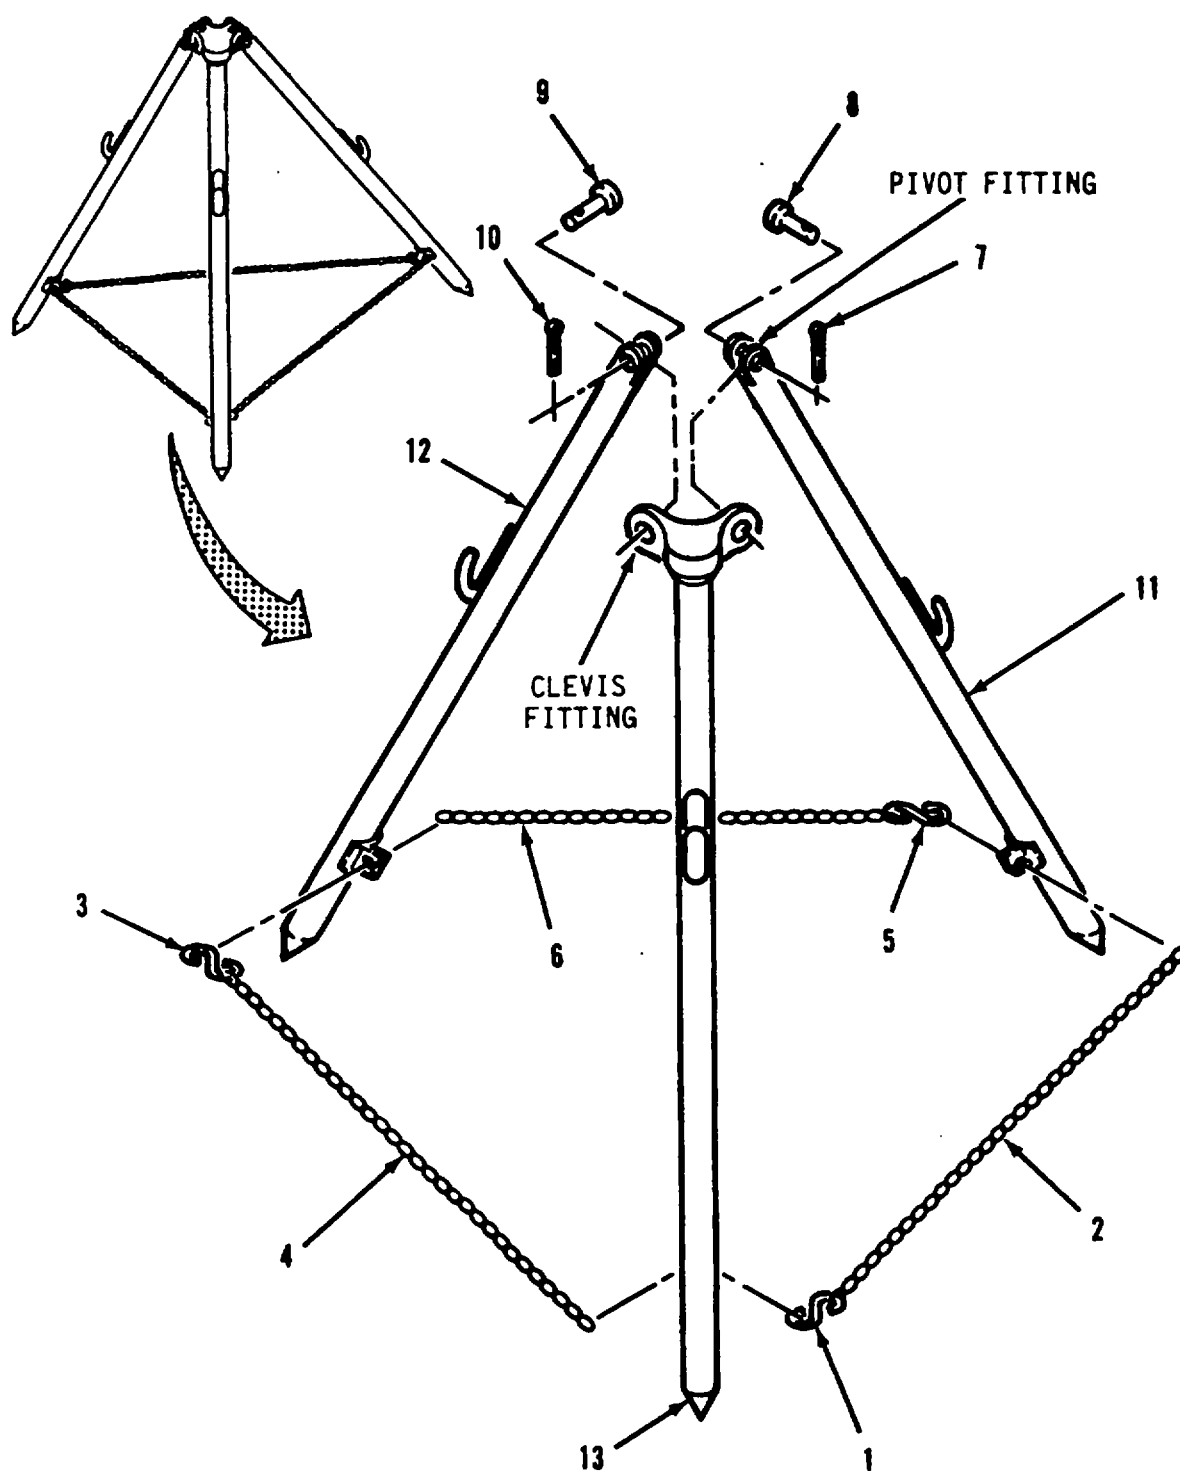

Figure 4-10. Nozzle Stand Repair
- (1) Inspect legs (11, 12 and 13) for cracks, broken clevis ends and bent or missing nozzle hangers.
- (2) Inspect chains (2,4 and 6) for broken links.
- e. Assembly. Refer to Figure 4-10.
- (1) Position clevis fitting on leg (12) over pivot fitting on leg (13).
- (2) Install straight pin (9) through pivot fitting and clevis. Install cotter pin (10) in straight pin.
- (3) Align clevis fitting on leg (13) with pivot fitting on leg (11).
- (4) Install straight pin (8). Install cotter pin (7) in straight pin.
- (5) Connect chains (2, 4, and 6) to legs (11, 12, and 13) with S-hooks (1, 3, and 5).
- (6) Position nozzle stand in water system.